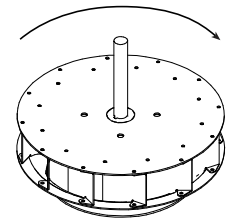

Figure 14
Figure 14 and correspond to the rotation decal on the unit. If wheel rotation is incorrect, reverse two of the wiring leads or check motor wiring for single phase. Fan RPM should be checked and verified with a tachometer.
- Start the fan and shut it off immediately to check rotation of the wheel with directional arrow in the motor compartment, reference Figure 14.